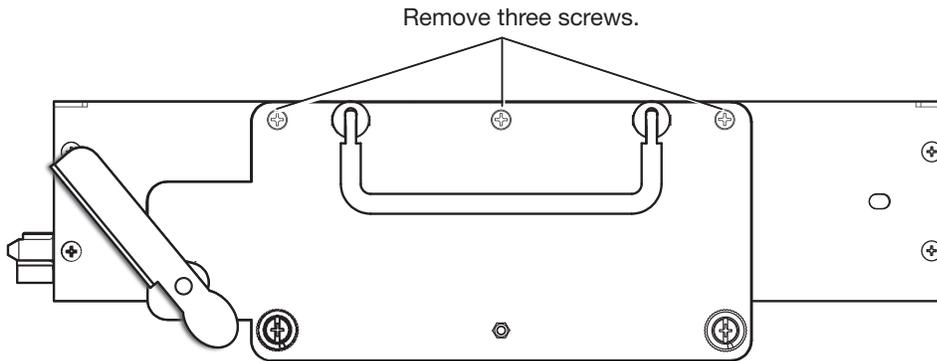

Figure 5. Removing the Plate from the Failed Redundant Power Supply Front Panel
2. Remove the front plate (containing the latch, handle, and thumbscrews) from the failed redundant power supply by unfastening the three round-headed Philips screws at the top of the plate (see figure 5). (Retain the front plate and screws to attach to the replacement power supply in step 5).